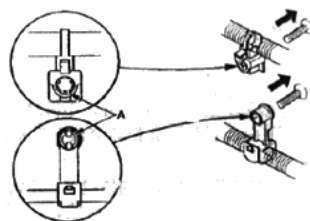

Fig. 4-6
4. Remove the wire clip with care, be aware not to damage its latch fitting (A). (Fig. 4-6)